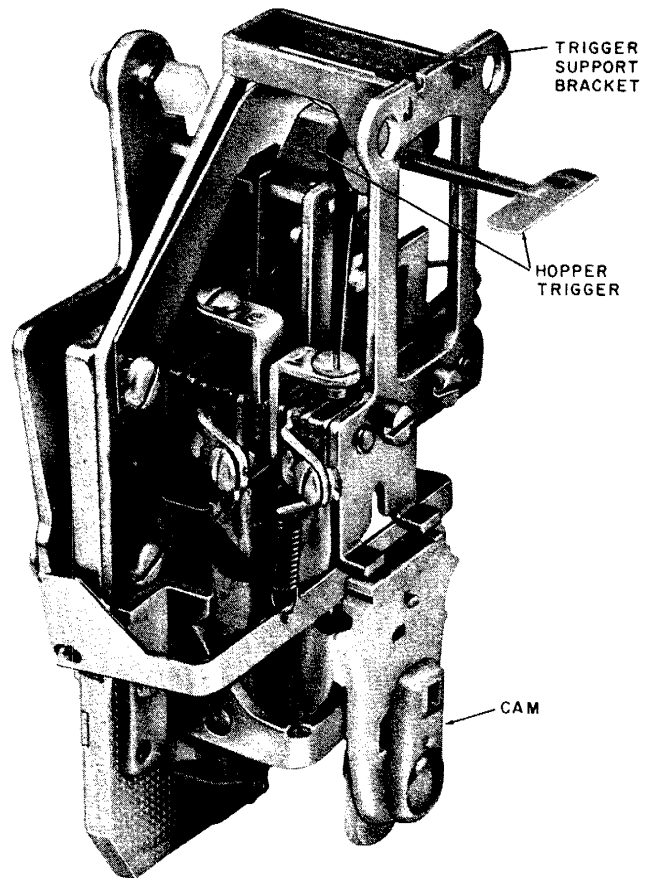
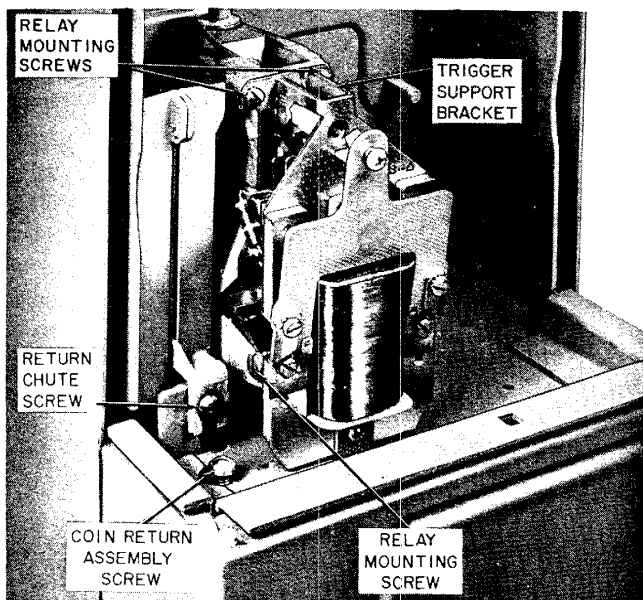

Fig. 18—Coin Relay
Fig. 17—Coin Relay and Return Chute
- (1) Disconnect black and yellow leads.
- (2) Remove two screws on top front of coin relay (Fig. 17).
- (3) Remove two hex head screws on sides of coin relay.
- (4) Check that hopper trigger (Fig. 18) is in horizontal (up) position and pull off coin relay. Take care not to damage hopper trigger.
Note: Do not attempt to install relay if trigger support bracket (Fig. 17) is so distorted that mounting holes do not engage bosses on hopper.
- (1) Remove coin chute-totalizer assembly (4.03).
- (2) Loosen screw on return chute assembly (Fig. 17).
- (3) Lift assembly up and off.
- (2) Remove return chute assembly (5.05).
- (3) Remove coin return assembly locking screw (Fig. 17).
- (4) Insert finger in coin return and tilt top forward.
- (5) Lift coin return. Pull coin return assembly out and up.